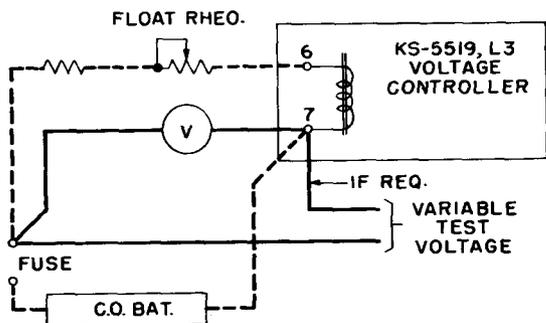

Fig. 4 - Typical Test Connections
(1) Check the voltage being applied to the control coil by means of the powerboard voltmeter or a portable voltmeter, such as the KS-8039, connected across the controller circuit.
(2) If the powerboard voltmeter is used, leave all connections normal and slowly increase (or decrease) the circuit voltage by operating the RAISE (or LOWER) button, on the switch marked MANUAL, which is located on the associated regulator control panel. Continue to raise (or lower) the impressed voltage until the rotating contact cam and the right (top), or left (bottom), contact makes connection. Observe these voltages on the powerboard voltmeter. If the observed voltages are within the specified limits, no adjustment is necessary. If the observed voltage is less than the low value for the right (top) contact, or above the high value for the left (bottom) contact, the spacing of the contact springs is too close and will result in too frequent operation of the regulator. If the observed voltage is above the high value for the right (top) contact, or below the low value for the left (bottom) contact, the spacing is too great and in either case the contact springs should be adjusted.
(3) If the portable voltmeter is used, it should be connected across the coil and the associated series resistance as shown in Fig. 4. In most offices, the office battery voltage is sufficiently stable to use as test voltage supply but in No. 5 crossbar offices, due to large load changes, the office battery voltage may not be stable enough for this purpose. **With stable office battery**, the battery voltage may be raised and lowered as covered in (2), or if such action would result in voltages outside circuit voltage limits, the office battery plus a group of emergency cells may be used as the test voltage shown in Fig. 4. In this latter case, a rheostat (about 2 amperes, 4 ohms) is required to vary the test voltage over the range shown in Table A. **With unstable office battery**, the test voltage (see Fig. 4) may be arranged with temporary wiring from an idle charger or from No. 6 dry cells in series with a rheostat. The current required by the KS-5519 controller is approximately 1 ampere.